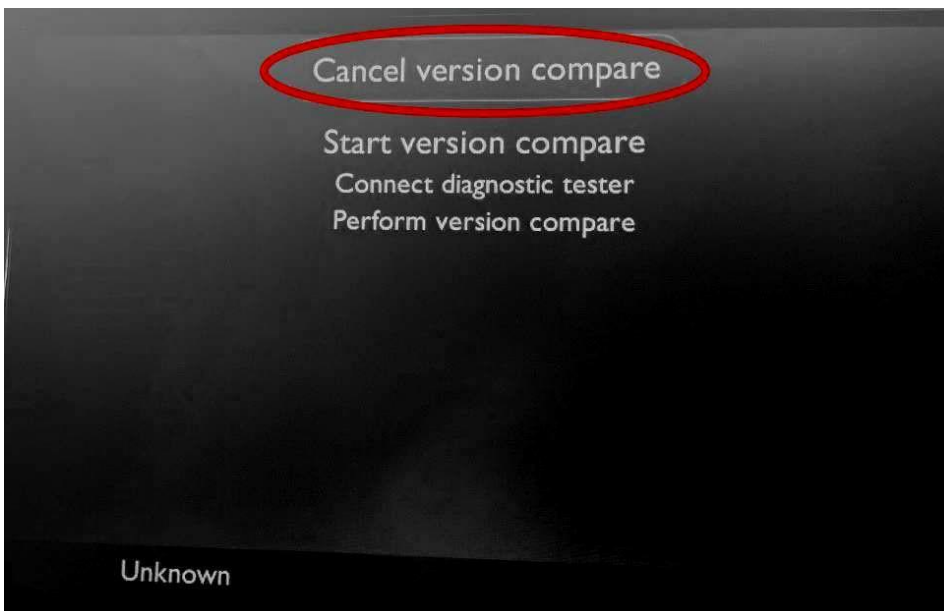

Figure 15
18. On the following screen press - Cancel version compare (see Figure 15) the system will reboot.